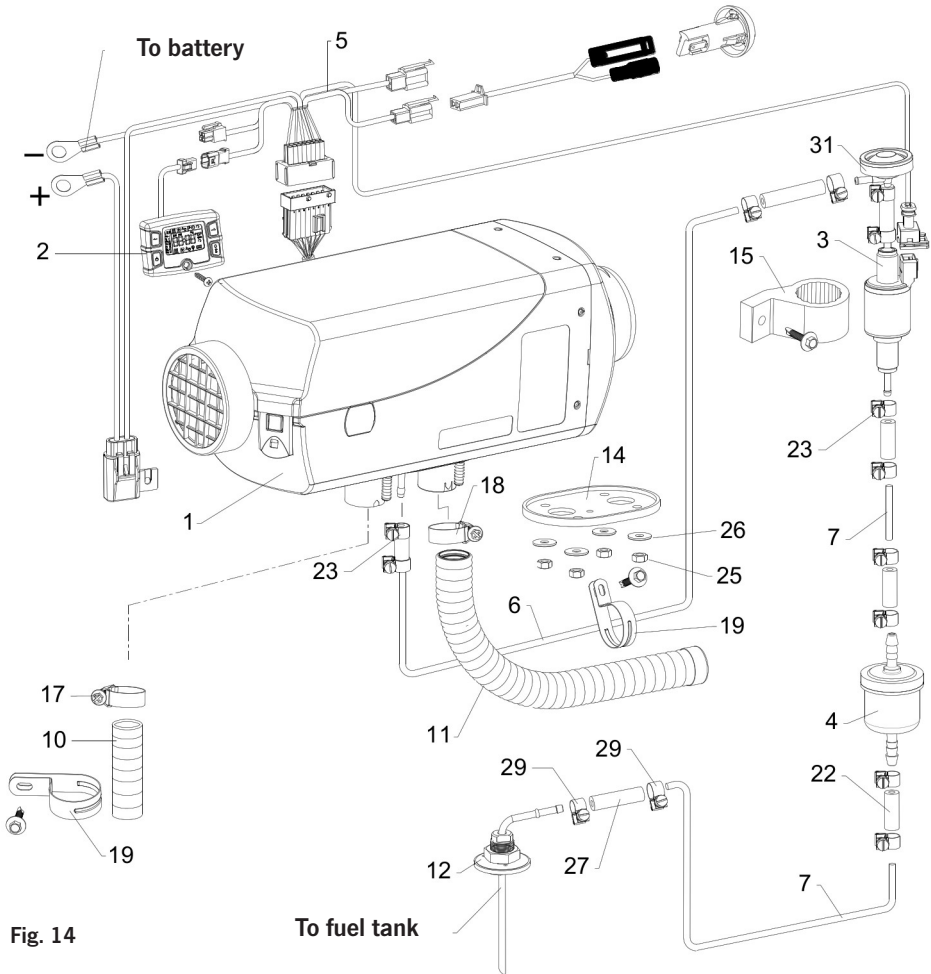

Fig. 14
32. VanHeat 4.0-DH | Product information | Spare parts list (See Fig. 14)